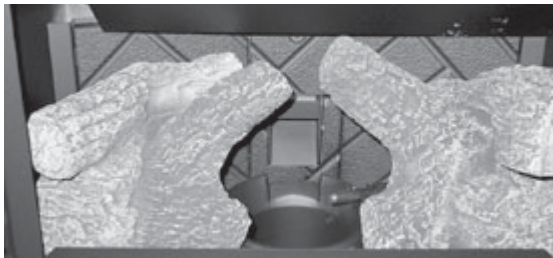

Figure 24.2
4. Push the logs to the far left and far right against the sides of the firebox. **Figure 24.2**